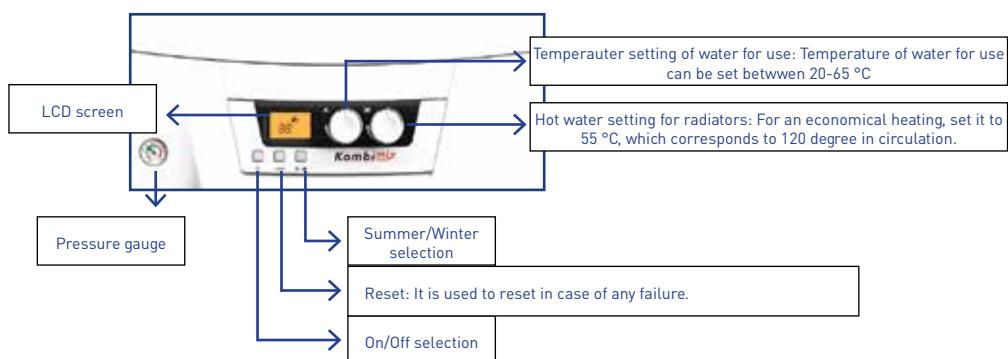

Figure 1.6.3
- User interface of the device is shown on Figure 1.6.3.